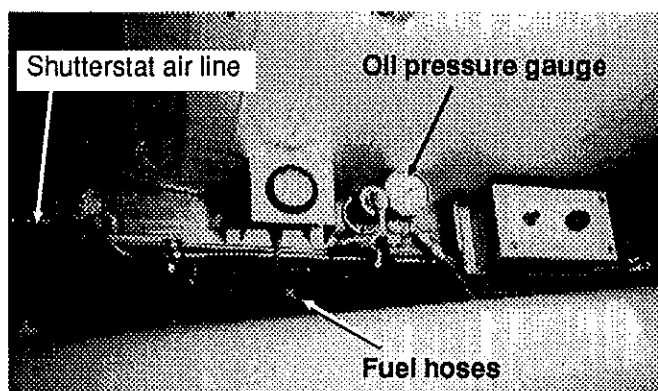

FIG. 7
20. Disconnect hose from oil pressure gauge (see fig. 7).
21. Disconnect the shutterstat air line from the air manifold (see fig. 7).
24. Disconnect both fuel hoses from fitting on ceiling (see fig. 7).